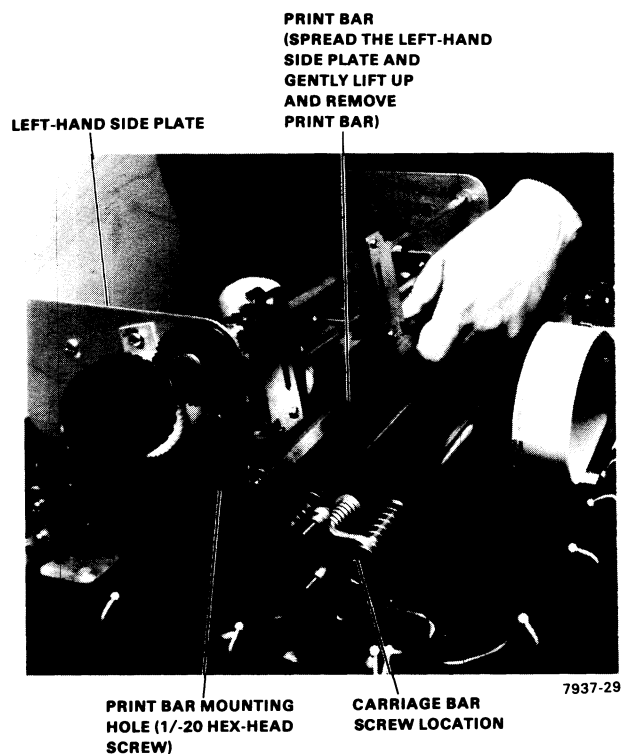

Figure 7-32 Print Bar Removal
8. Remove the two (10-32) Allen-cap screws, split lockwashers, and flat washers, connecting the right side of the carriage shafts to the right-hand side plate (Figure 7-32).
10. Remove the two 7/16 hex-head (1/4-20) screws, lockwashers, and flat washers from the print bar (Figure 7-32).
11. Install the 10-32 screw connecting the right front printer mechanism to the cabinet base (Figure 7-32).